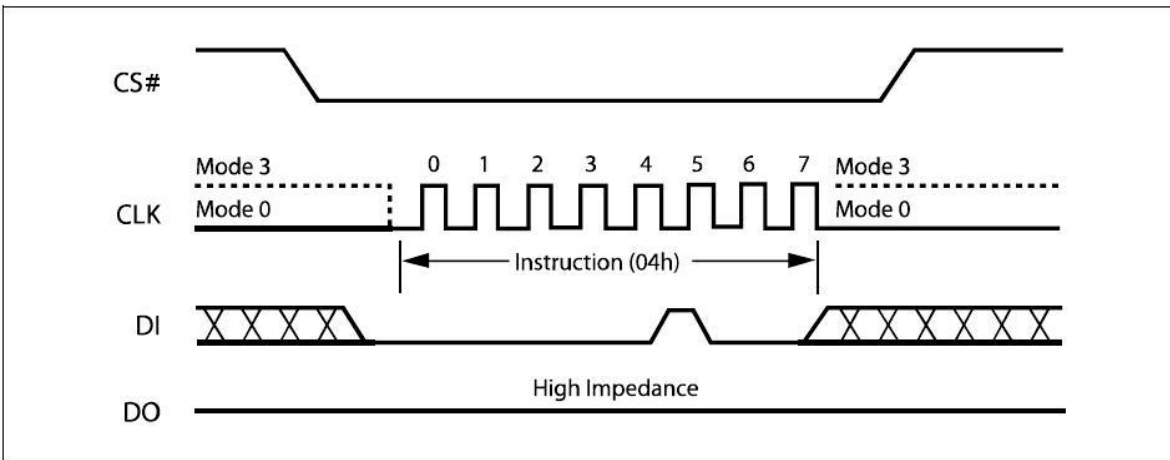

Figure 10. Write Disable Instruction Sequence Diagram
The Write Disable instruction (Figure 10) resets the Write Enable Latch (WEL) bit in the Status Register to a 0 or exit from OTP mode to normal mode. The Write Disable instruction is entered by driving Chip Select (CS#) low, shifting the instruction code “04h” into the DI pin and then driving Chip Select (CS#) high. Note that the WEL bit is automatically reset after Power-up and upon completion of the Write Status Register, Page Program, Sector Erase, Half Block Erase (HBE), Block Erase (BE) and Chip Erase instructions.